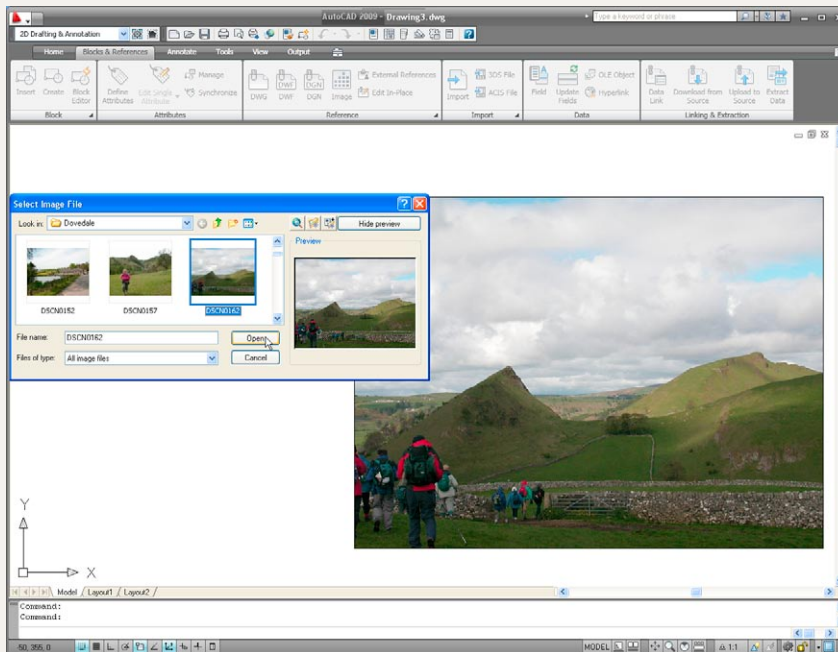

Fig. 10.30 Exercise 3 – an example
3. Click Image... in the Reference panel and insert a JPEG image (\*.jpg file) of a photograph into the AutoCAD 2010 window. An example is given in Fig. 10.30.